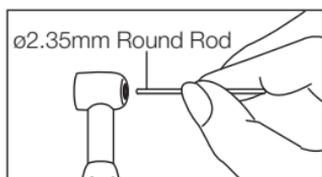

Fig. 8
- 4) Insert a ø2.35mm round rod from the front of end. Push up the round rod, and cartridge and washer are removed from the top end of the head. (Fig. 8, 9)